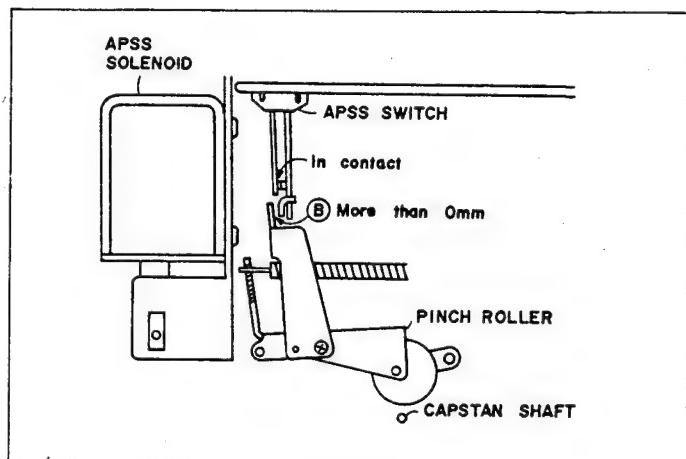

Figure 23
- (1) Set the unit in Fast-forward APSS (or Rewind APSS) mode.
- (2) Adjust the setting position of the APSS switch (SW301) so that the interval **(B)** of Figure 23 will be as specified.